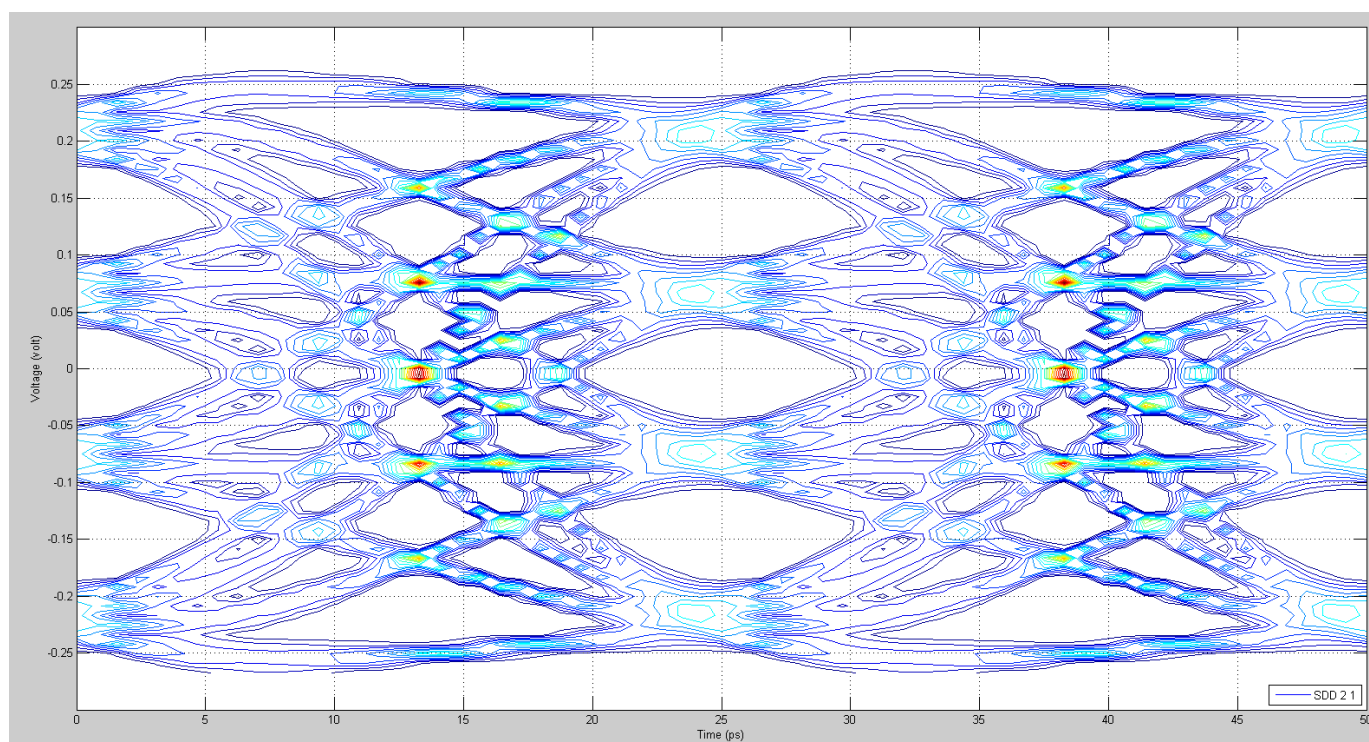
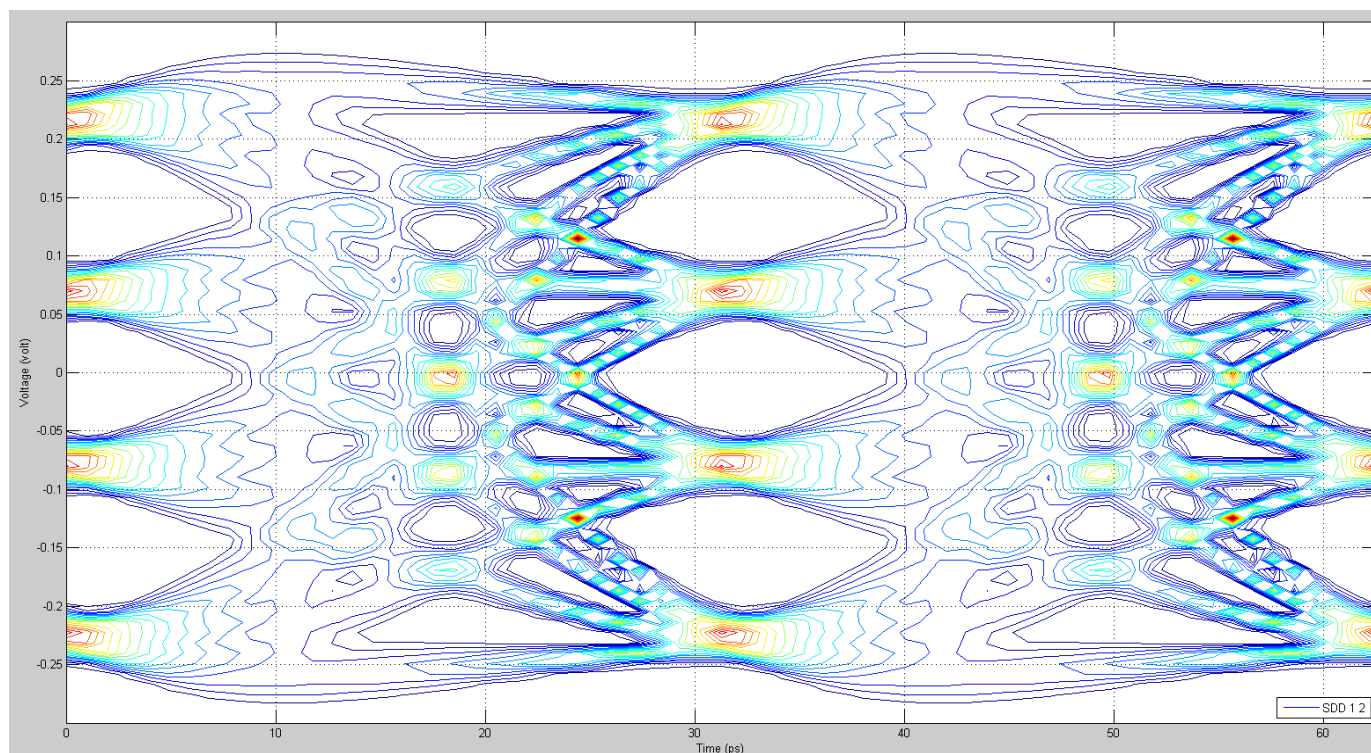

Figure 1. HS1-HS2 Differential PAM4 Eye Diagram - 80 Gbps / Rise time 7.5ps (20 to 80%)
Figure 3. MS1-MS2 Differential PAM4 Eye Diagram- 64 Gbps / Rise time 10ps (20 to 80%)
- Signal path: (Figure 1 and 2) HS1 to HS2, (Figure 3) MS1 to MS2